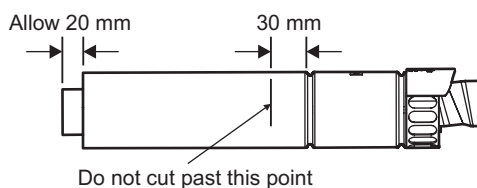

Fig. 5.10
5.7 REDUCING THE FLUE - Fig. 5.10
When the flue length required is less than the minimum stated in Section 4.6, paragraph 1, refer to Fig. 5.10. Discard the first telescopic section (**not** the section with the terminal) of the Easy-Flue 1000 mm or 500 mm and cut to the required length.